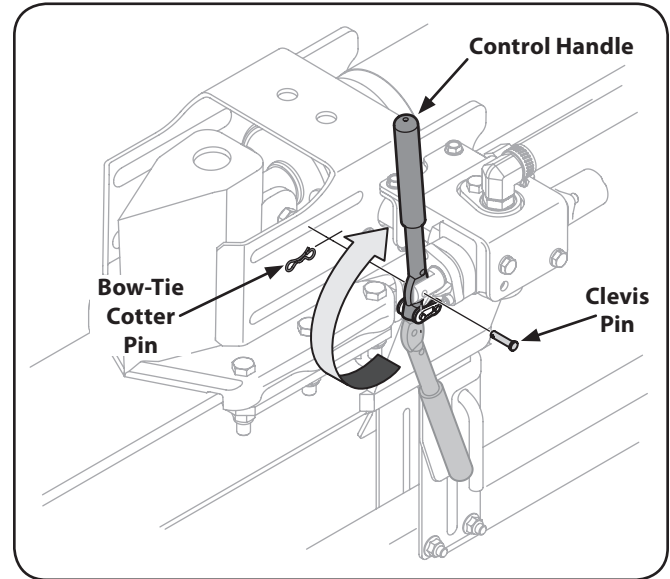

Figure 3-8
22. Remove the clevis pin and bow-tie cotter pin from the control handle. See Fig. 3-8.
23. Rotate the control handle into the operating position and secure with the clevis pin and bow-tie cotter pin removed in step 22. See Fig. 3-8.